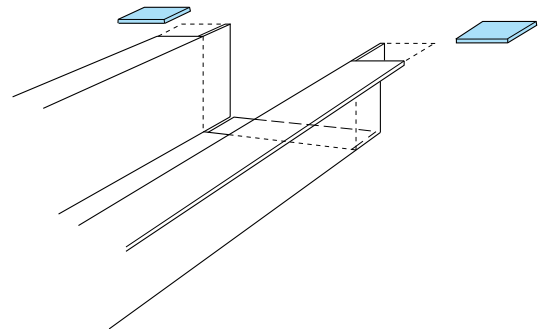

Fig. 4.35 — Create Tabs on the New Rail Section
- 3 Cut and remove approximately 35mm (1-5/16 inches) of the flanges on the service rail. Cut a 5mm (1/4 inch) gap approximately 35mm (1-5/16 inches) along the corners of the service rail to create tabs (Fig. 4.35).